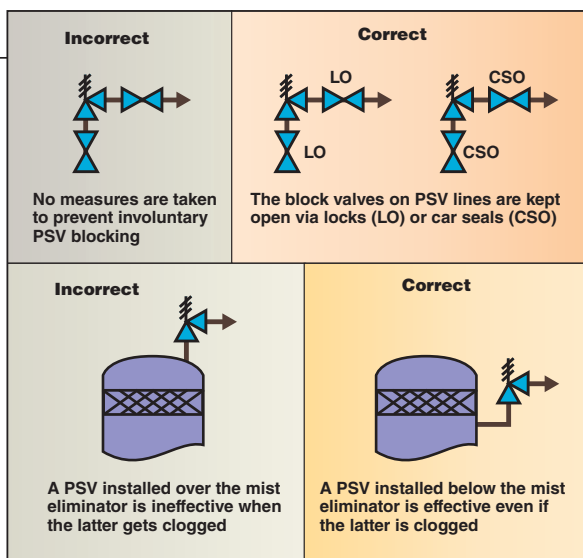

FIGURE 2. The risk of blocking in a pressure safety valve (PSV) can sometimes be readily identified on P&IDs
A relief valve can be blocked for various reasons. Some of the most common include the lack of locked-open (LO) or car-seal-open (CSO) indications in the PSV inlet- and outlet-line block valves, and installing the PSV above the mist eliminator on a separator. Both deficiencies can be readily identified on P&IDs (Figure 2).